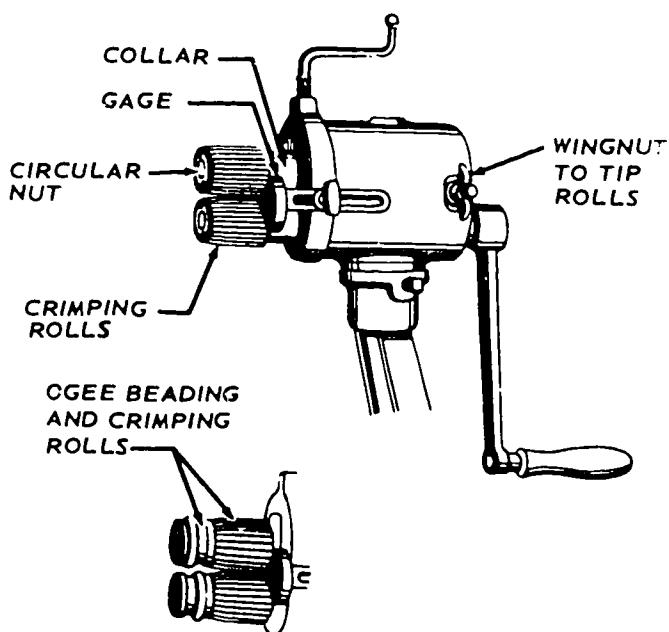

Figure 3-11. Crimping machine.
*Crimping machine.* The crimping machine, shown in figure 3-11, is used to make one end of a pipe joint smaller than the other so that the two sections may be slipped together. Some of the crimping machines have combination beading rolls and crimping rolls. The bead serves to reinforce a formed cylinder and to prevent the crimped edge from slipping too far into the other cylinder.